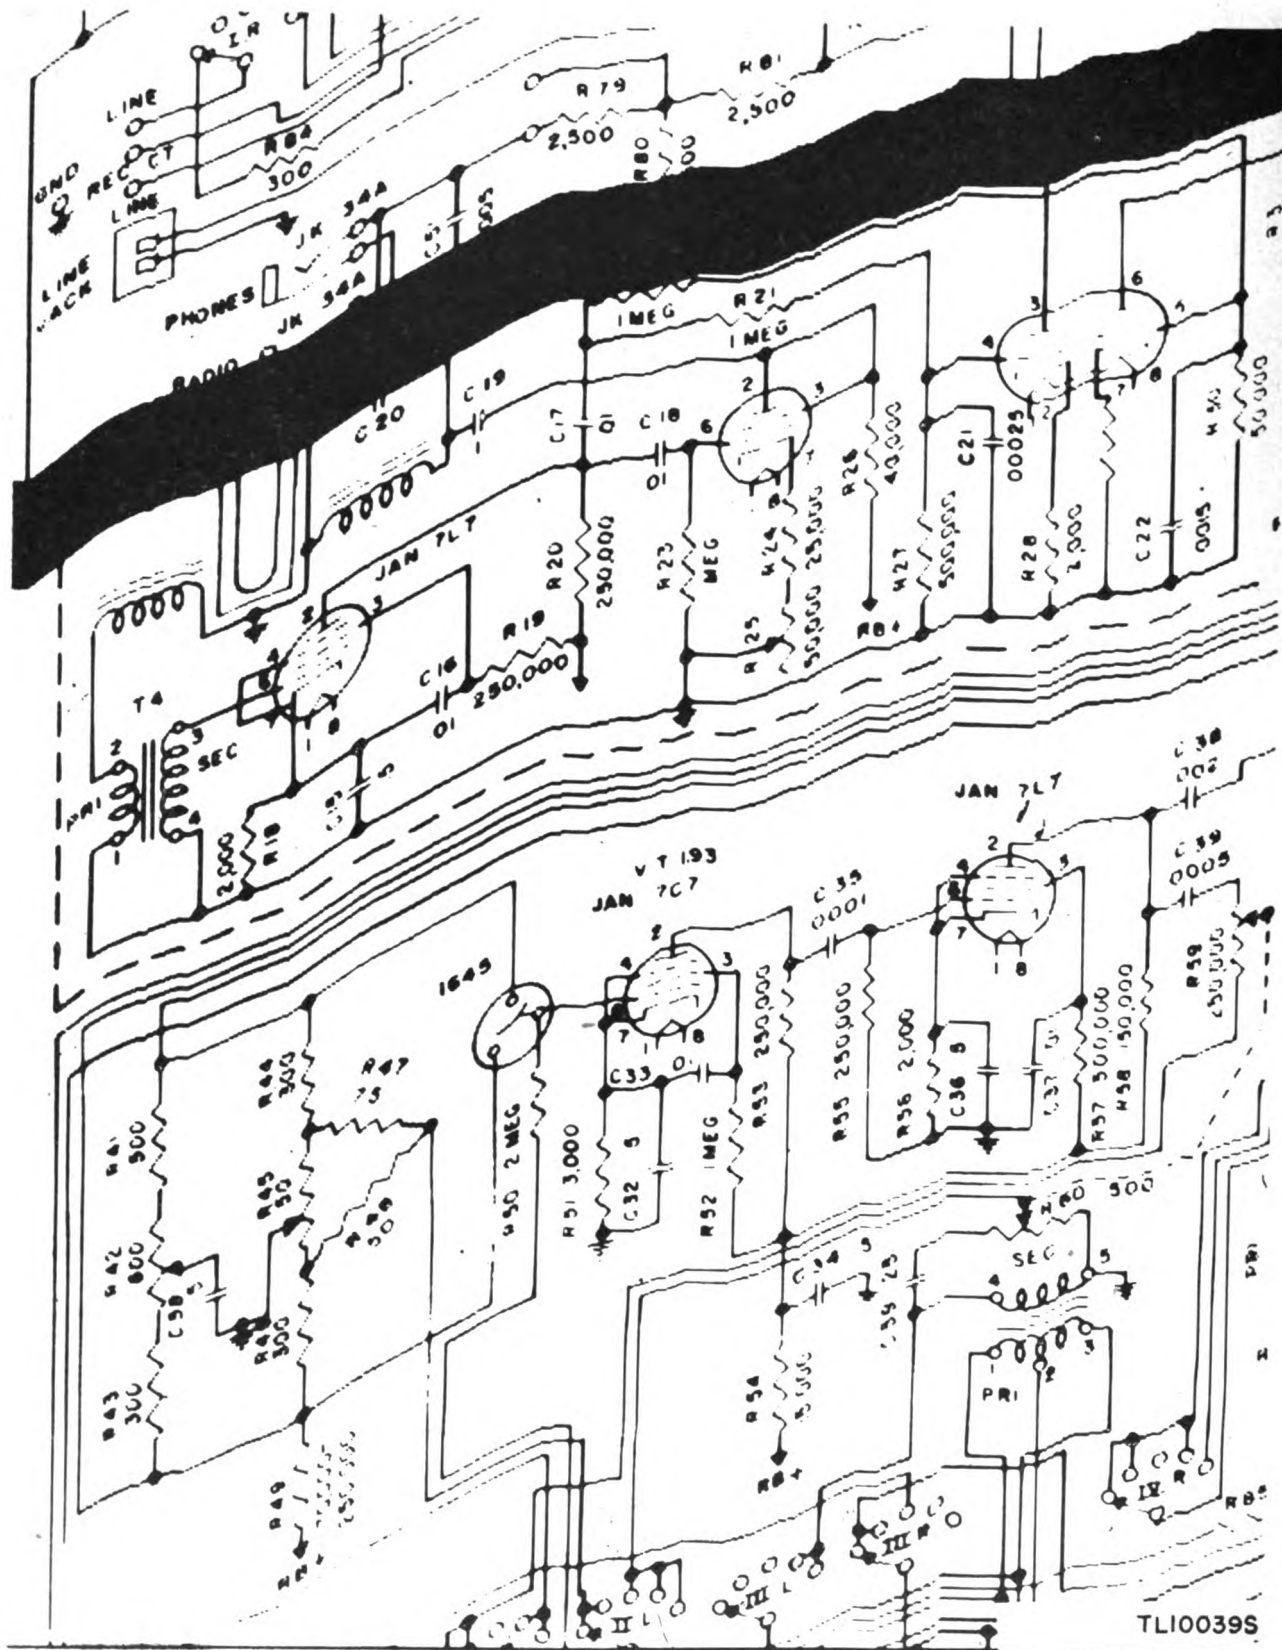
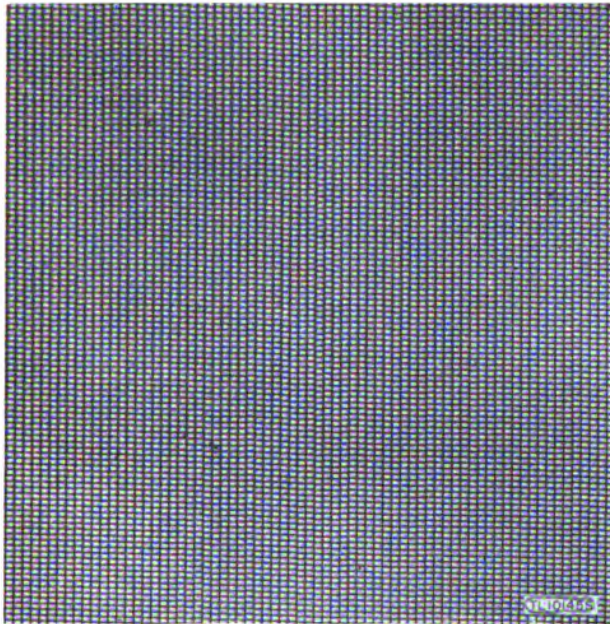

Figure 12. Example of irregular skew.
Figure 13. Enlarged section of photo recording.
(1) Failure of the armature to release the stop arm may result from improper adjustment of the armature back stop screw, tightness of the clutch pressure adjustment, insufficient application of electrical power to the phase magnet when phasing pulse is received, tightness of the armature return-spring, or contacts not closed.
(2) Failure of the armature to remain locked when the PHASE button is released may be traced to lack of voltage for V4.
(3) Failure of armature to release when PHASE button is depressed may be caused by a weak armature return spring, improper adjustment of the PHASE switch contacts, or a bind in the pivots.
(4) Failure of the armature to pull in when PHASE button is pressed or released may be traced to an open coil winding.
(5) A slow irregular skew in the received copy is generally caused by a slipping clutch; the slip may be traced to low clutch pressure or excessive uncontrolled friction between the clutch ring and the clutch bearing. (See fig. 12.)
d. IRREGULAR SKEW. If the received copy shows an irregular skew as illustrated in figure 12, it is very probable that the clutch of the transmitter or receiver motor is slipping. The clutch slippings can often be traced to a bind in the drum system of the transmitter or receiver. To determine whether the defect is in the transmitter or receiver, examine the photographically recorded copy with a magnifying glass. If the individual recorded elemental areas are in approximate straight alignment (fig. 13), the defect lies in the transmitter system. If the individual recorded elemental areas follow the contour of the skew, the trouble lies in the recorder system. When receiving on direct recording paper, observe the direction of the skew before removing the paper from the drum. If the right-hand side of the copy is skewed to the rear of the machine, the clutch is slipping in the transmitting machine. Check the clutch tension in accordance with paragraph 34. If the clutch tension is correct, necessary measures must be taken to eliminate the bind in the defective drum or leadscrew (pars. 35 and 36.)